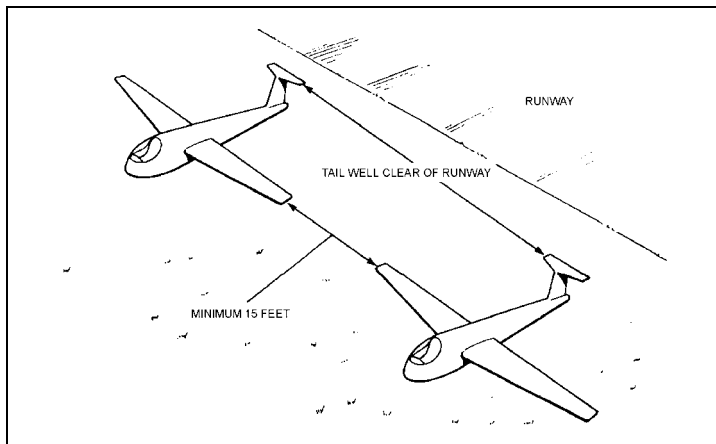

Figure 2-2-4 Tie-Down Clearances
30. To ensure sufficient clearance is provided between parked aircraft, a minimum of 15 feet should be maintained between glider wing tips (see Figure 2-2-4). This will permit ease of movement of aircraft into and out of tie-down areas without risk of wing tip contact. The clearance also provides some protection in the case of an adjacent aircraft partially breaking loose from its tie-down.